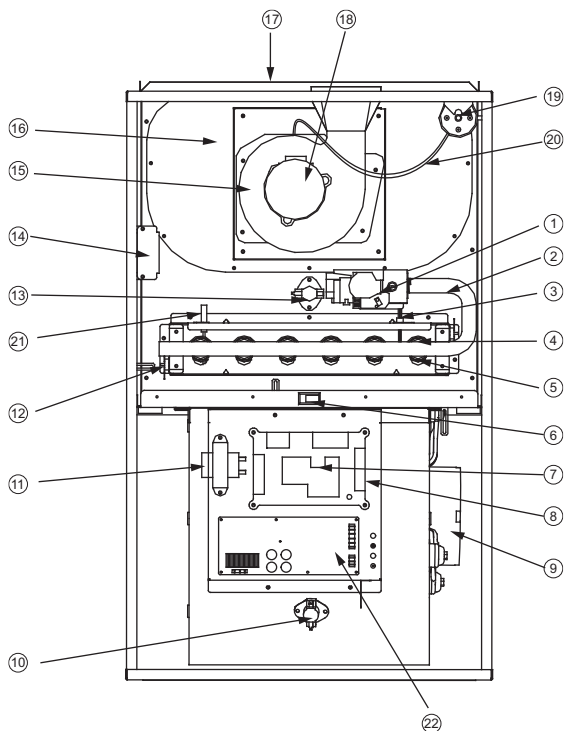

Fig. 14-4
- Parts are available from your distributor. (See Fig . 14-4)